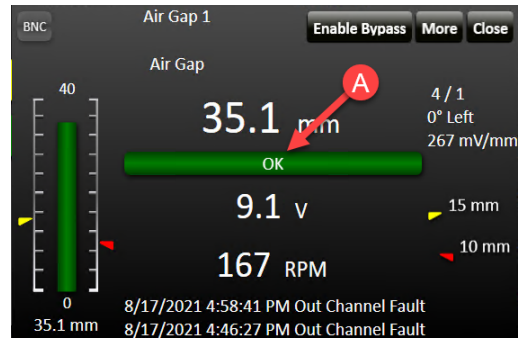

Figure 7-10) Status Bar
- Check the status bar (A) of the Air Gap channel using the VC-8000 Maintenance software. Verify the status is OK (see **Figure 7-10**).